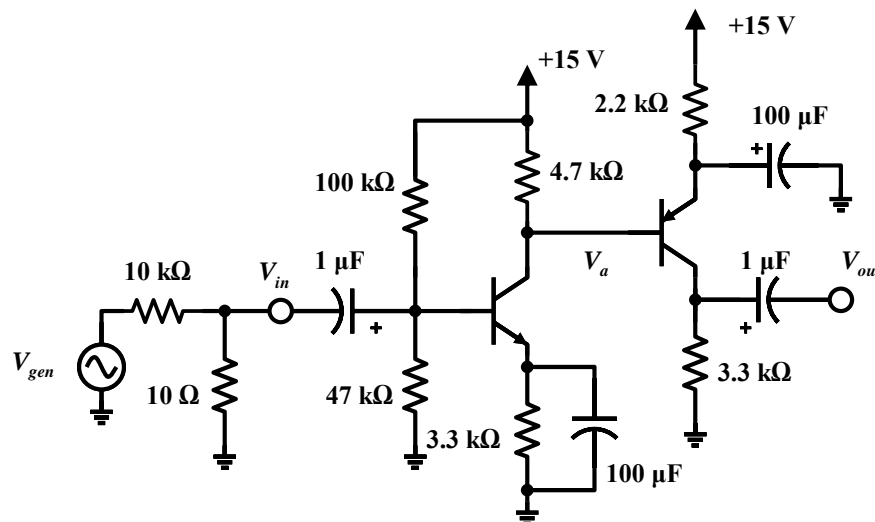

Figure 3-3 – Two-stage amplifier.
The circuit in Figure 3-3 is a cascade of two common-emitter stages, one with an NPN device and the second using a PNP (2N3906) device. Cascading gain stages has the advantage of increased gain, but comes at the expense of a decreased bandwidth, as you will see firsthand below.
- Construct the circuit in circuit Figure 3-3. Note the supply voltage has been increased to 15 V. Measure and record the mid-band AC voltage gain  $A_{vo} = V_{out} / V_{in}$  with a generator signal of 0.1V sinusoid at 10kHz. It may be difficult to see  $V_{in}$  on your oscilloscope because of the large step-down ratio of the voltage divider at the input (nominally a divide-by-1000). If so, increase the input signal briefly to establish the actual voltage division ratio, then use this information to calculate the  $V_{in}$  for a 0.1V generator input.